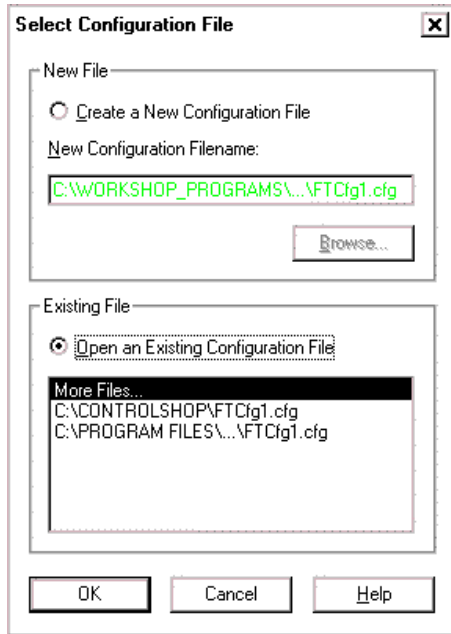

Figure 0-9
- ❑ **Configuration File** - Change the configuration file at any time by clicking on the Select button to bring up the Select Configuration File (Figure 0-9). All the configured devices are saved here when selecting Save or Save As from the File menu.